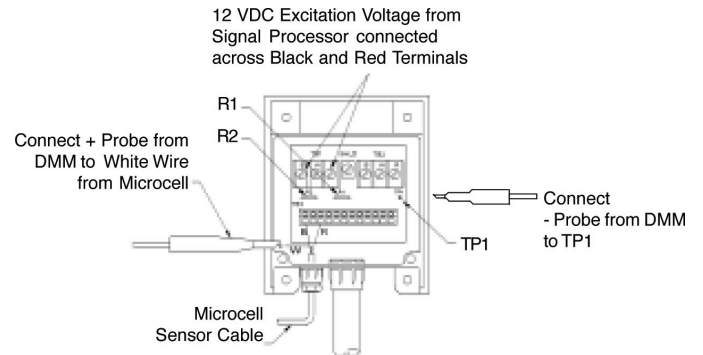

Figure C-1. Using DMM to Monitor Voltage Output.
1. See Figure C-1. Connect the red wire from the Microcell™ cable to the R terminal on terminal block TB3 in the junction box. Connect the black wire to the B terminal on TB3.